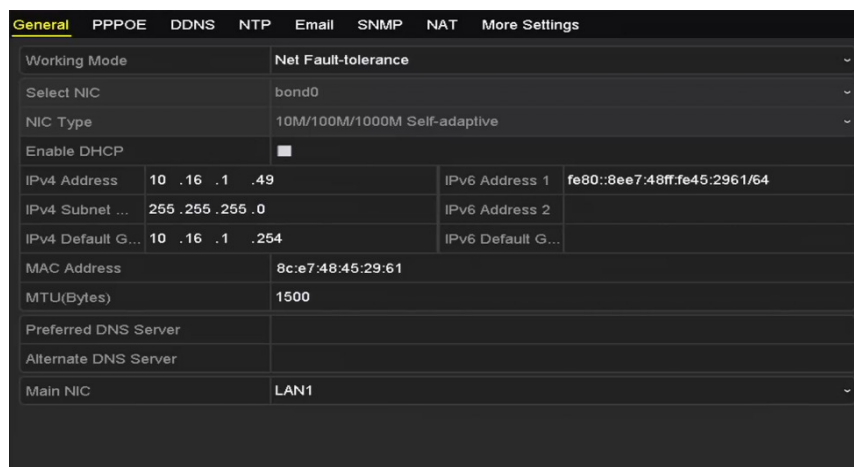

Figure 195 Network Settings Interface
2. Set the IPv4 Address, IPv4 Subnet Mask, IPv4 Gateway, and the Preferred DNS Server in the Network Settings menu, as shown in Figure 195.